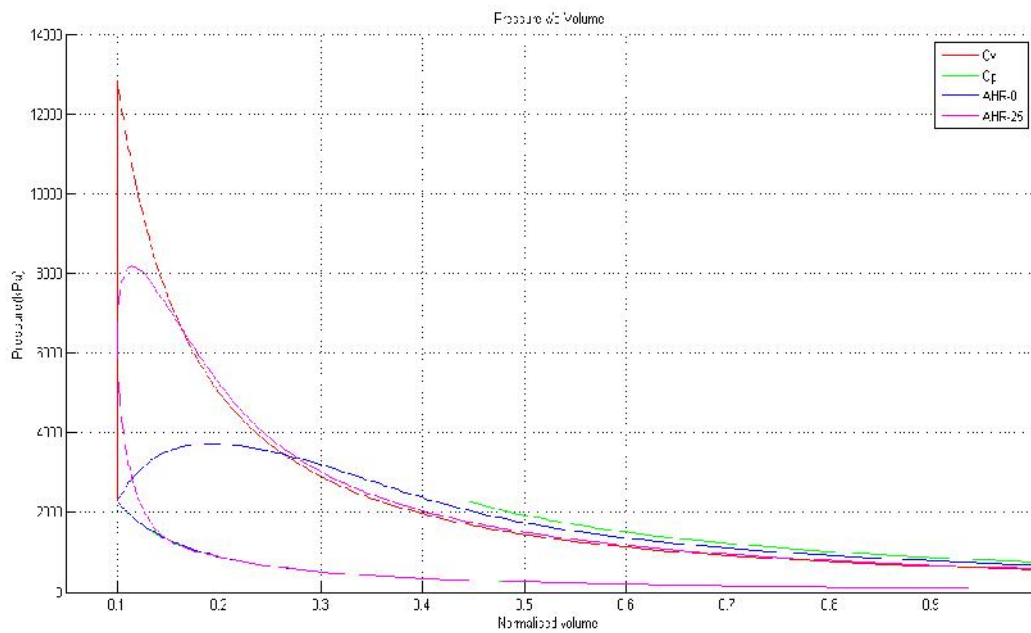

Figure 2 Graph indicating variation in Pressure with respect to change in normalized Volume for four different cycles
- This fact is also justified by Fig.2. Also, since Work done is the closed integral of Pdv which means the area of the PV diagram of a particular cycle represents work done. It can be clearly concluded that Work done in the case of Constant Volume combustion is the highest